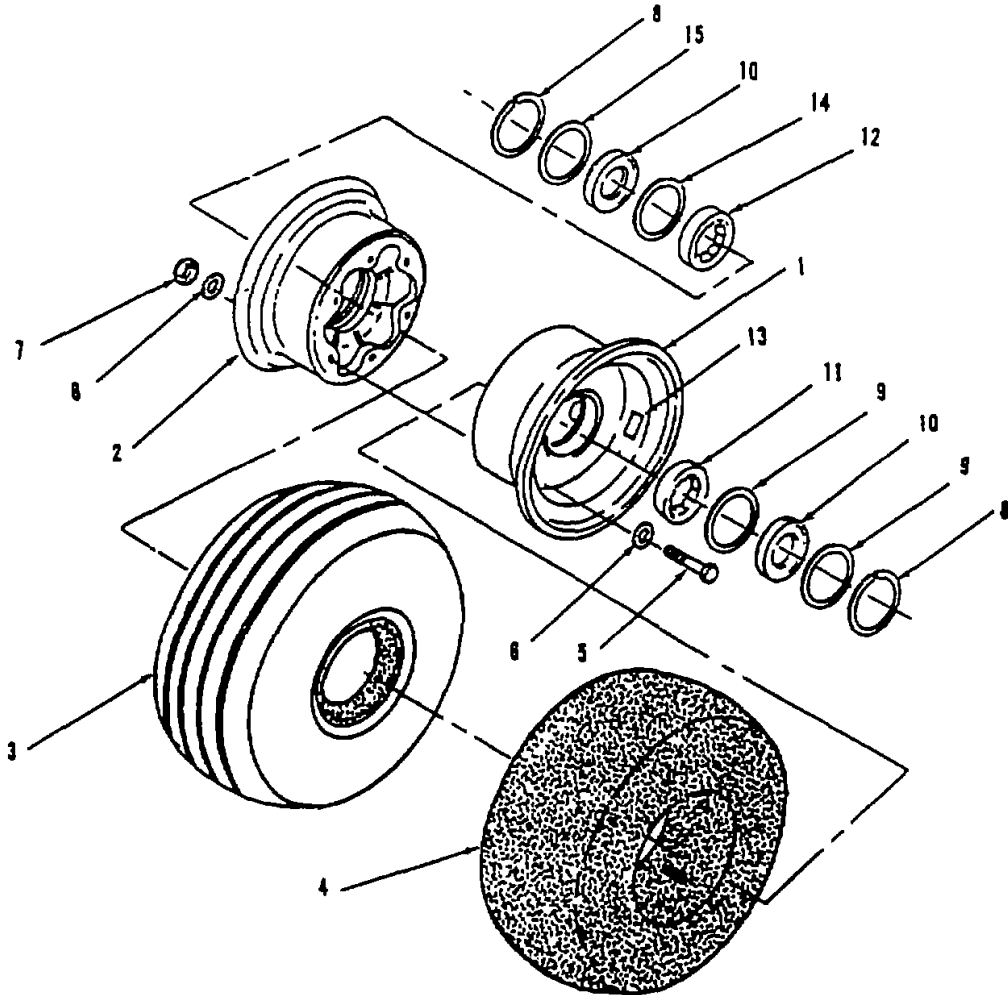

Figure 3-9. Wheel Assembly, Model 204-050-200-5
The Wheel Assembly is group number 03 in the MAC. This procedure is applicable to wheel assembly with part number 40-76-1, used on Ground Handling Wheels Assembly, Model 204-050-200-5. The numbers in parenthesis refer to figure 3-9. Observe all WARNINGS and CAUTIONS while performing the following Inspections.
1. Remove the tire and tube (Figure 3-9).
- a. Press valve stem core to vent air from tube(4) and deflate tire completely.
- c. Remove nuts(7), washers (6), and bolts (5) from wheel halves at three locations.
- d. Separate wheel halves (2) and (1) and remove tire (3) and tube (4).
- a. Remove lockring (8), washer (9), felt packing (10), washer (9), and bearing (11) from outer wheel half (1).
- b. Clean bearing race and inspect for damage. If race is damaged, replace outer bearing (11) or wheel half (1).
- a. Pack new bearing by dipping in grease (item 7, Appendix D) and working between balls and cage with fingers.
- b. Install new bearing (11), washer (9), felt packing (10), flat washer (9), and lock ring (8).